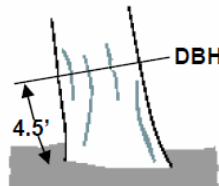

Figure 8 - Leaning Tree
- Leaning Tree: Measure diameter at 4.5 feet from the ground along the bole. The 4.5-foot distance is measured along the underside face of the bole (Figure 8).